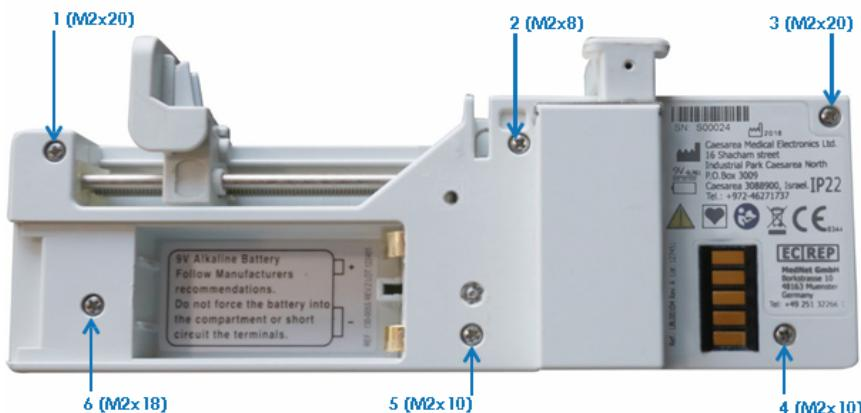

Figure 6-17. Pump – Rear View – Housing Screw Locations
5. Stand the device upright and separate the front and rear housing (see Figure 6-17). RTV silicone 3140 will prevent you from smoothly separating the housing. You may require some force in doing so.
6. Reassemble the housing in the reverse order. Make sure that the front and rear housing surfaces are lined up parallel and that the connectors mate properly, apply the silicone RTV 3140 (as shown below) and then press them together and affix the respective screws, as shown in Figure 6-17.
- Insert the six mounting screws and tighten them to 0.20 N with a calibrated torque screwdriver. Note that the respective screw sizes are as depicted in Figure 6-17.
3. Be sure to remove the M2x8 fixing screw from the rear housing (screw #2 in Figure 6-17).